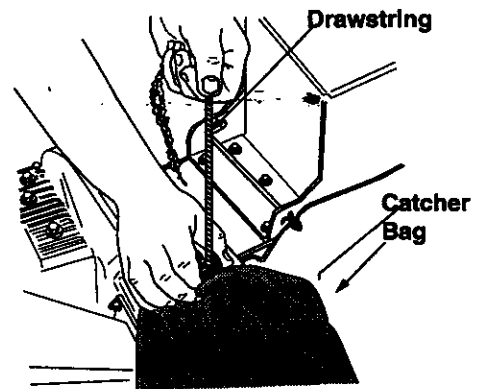

Figure 8
- Depress the plunger on the draw-string, and pull on the draw-string until the bag is tight around the chute opening. Release plunger to lock it into position. See Figure 8.